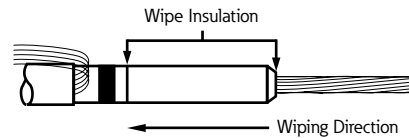

Figure 19. Line illustration of insulation cleaning.
- Clean insulation thoroughly with solvent dampened rag, wiping from conductor end toward insulation shield. Refer to Figure 19.